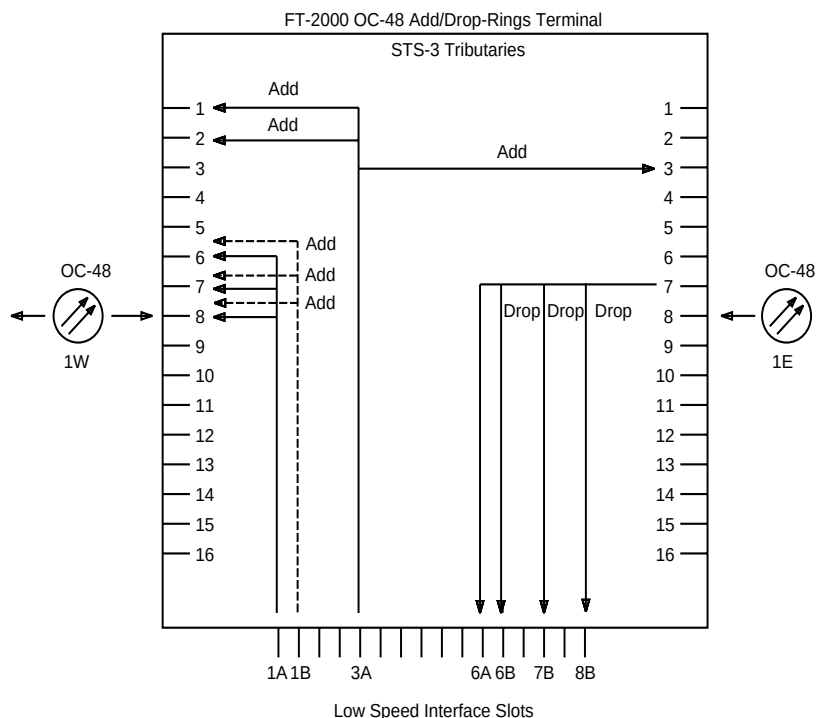

Figure 8-4. Multiple STS-3 Bridge Cross-Connections at an FT-2000 OC-48 Add/Drop-Rings Terminal
- Multiple bridge cross-connections:** In Release 5 and later releases, the FT-2000 OC-48 Add/Drop-Rings Terminal supports multiple bridge cross-connections. A multiple bridge cross-connection is three or more superimposed cross-connections sharing the same source. The source can be any incoming STS-3 tributary of OC-48 high-speed line 1E or 1W, or any service low-speed interface slot. For example, Figure 8-4 shows incoming service STS-3 tributary 7 of OC-48 high-speed line 1E cross-connected to service low-speed interface slots 6A, 6B, 7B, and 8A. Figure 8-4 also shows service low-speed interface slot 3A cross-connected to service STS-3 tributaries 1 and 2 of OC-48 high-speed line 1W, and service STS-3 tributary 3 of OC-48 high-speed line 1E.
Multiple bridge cross-connections can also be made to/from any service low-speed interface slot and the companion low-speed interface slot (for example, 2A and 2B) when the slot pair is provisioned for the OC-3 1+1 protected mode. For example, Figure 8-4 shows service low-speed interface slots 1A and 1B cross-connected to service STS-3 tributaries 6, 7, and 8 of OC-48 high-speed line 1W.